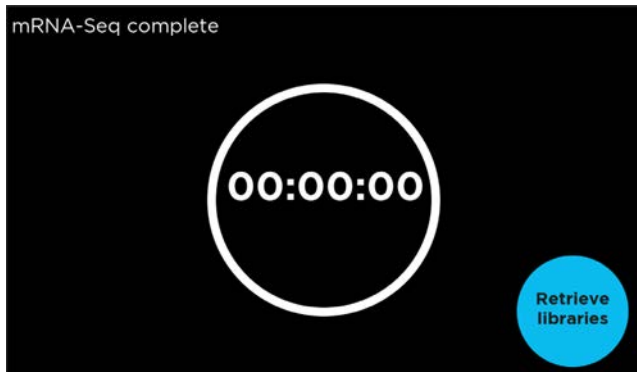

Figure 15. Run complete screen.
1. When a run completes, “mRNA-Seq complete” will be displayed (Figure 15). Touch the “Retrieve libraries” button when ready to retrieve your completed libraries.